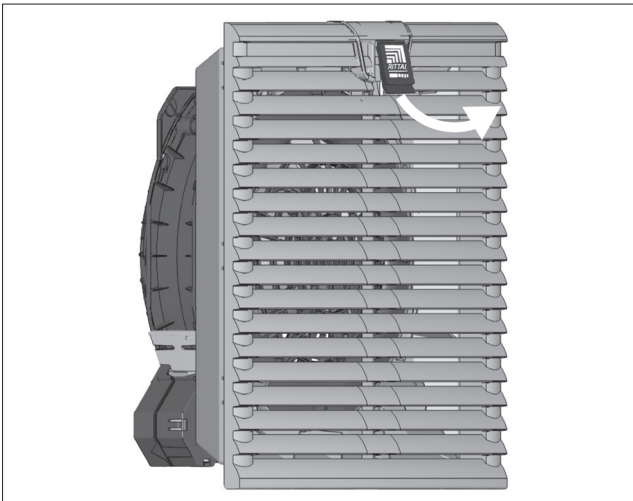

Fig. 6: Release the louvred grille
- First press the catch of the louvred grille (Rittal logo) up slightly with one finger (see fig. 6).
- First press the catch of the louvred grill (Rittal logo) up slightly with one finger (see fig. 6).